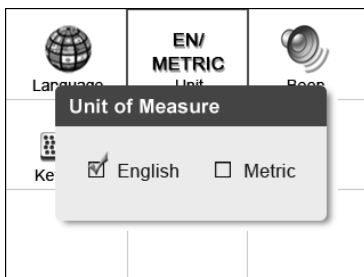

Figure 3.4
- 2) From **Unit of Measure** screen, use the **LEFT/RIGHT** scroll button to select the desired unit of measurement. (Figure 3.4 )